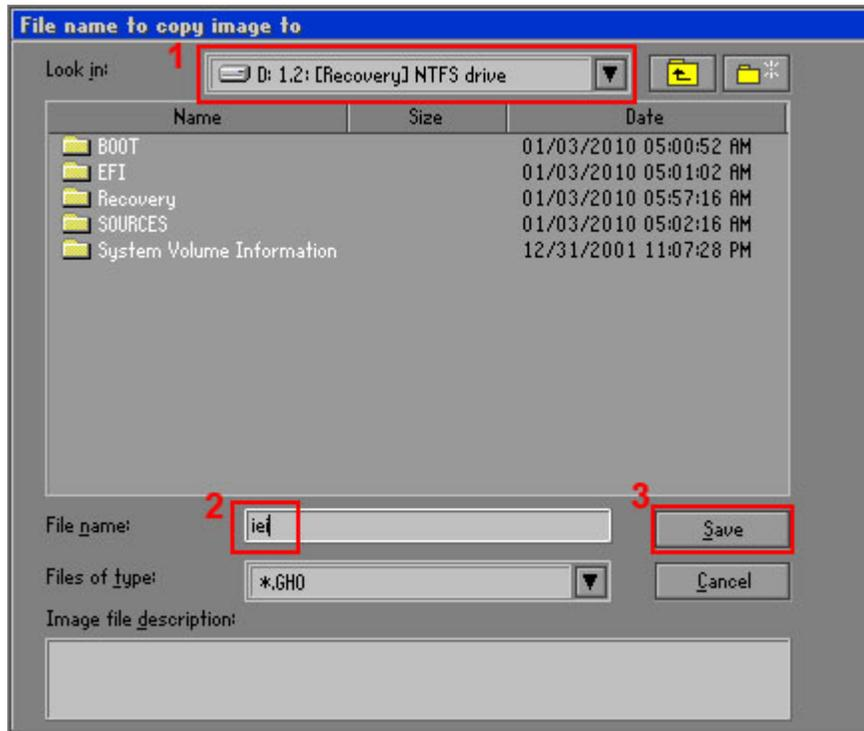

Figure B-16: File Name to Copy Image to
Step 7: Select 1.2: [Recovery] NTFS drive and enter a file name called **iei** (**Figure B-16**). Click **Save**. The factory default image will then be saved in the selected recovery drive and named IEI.GHO.